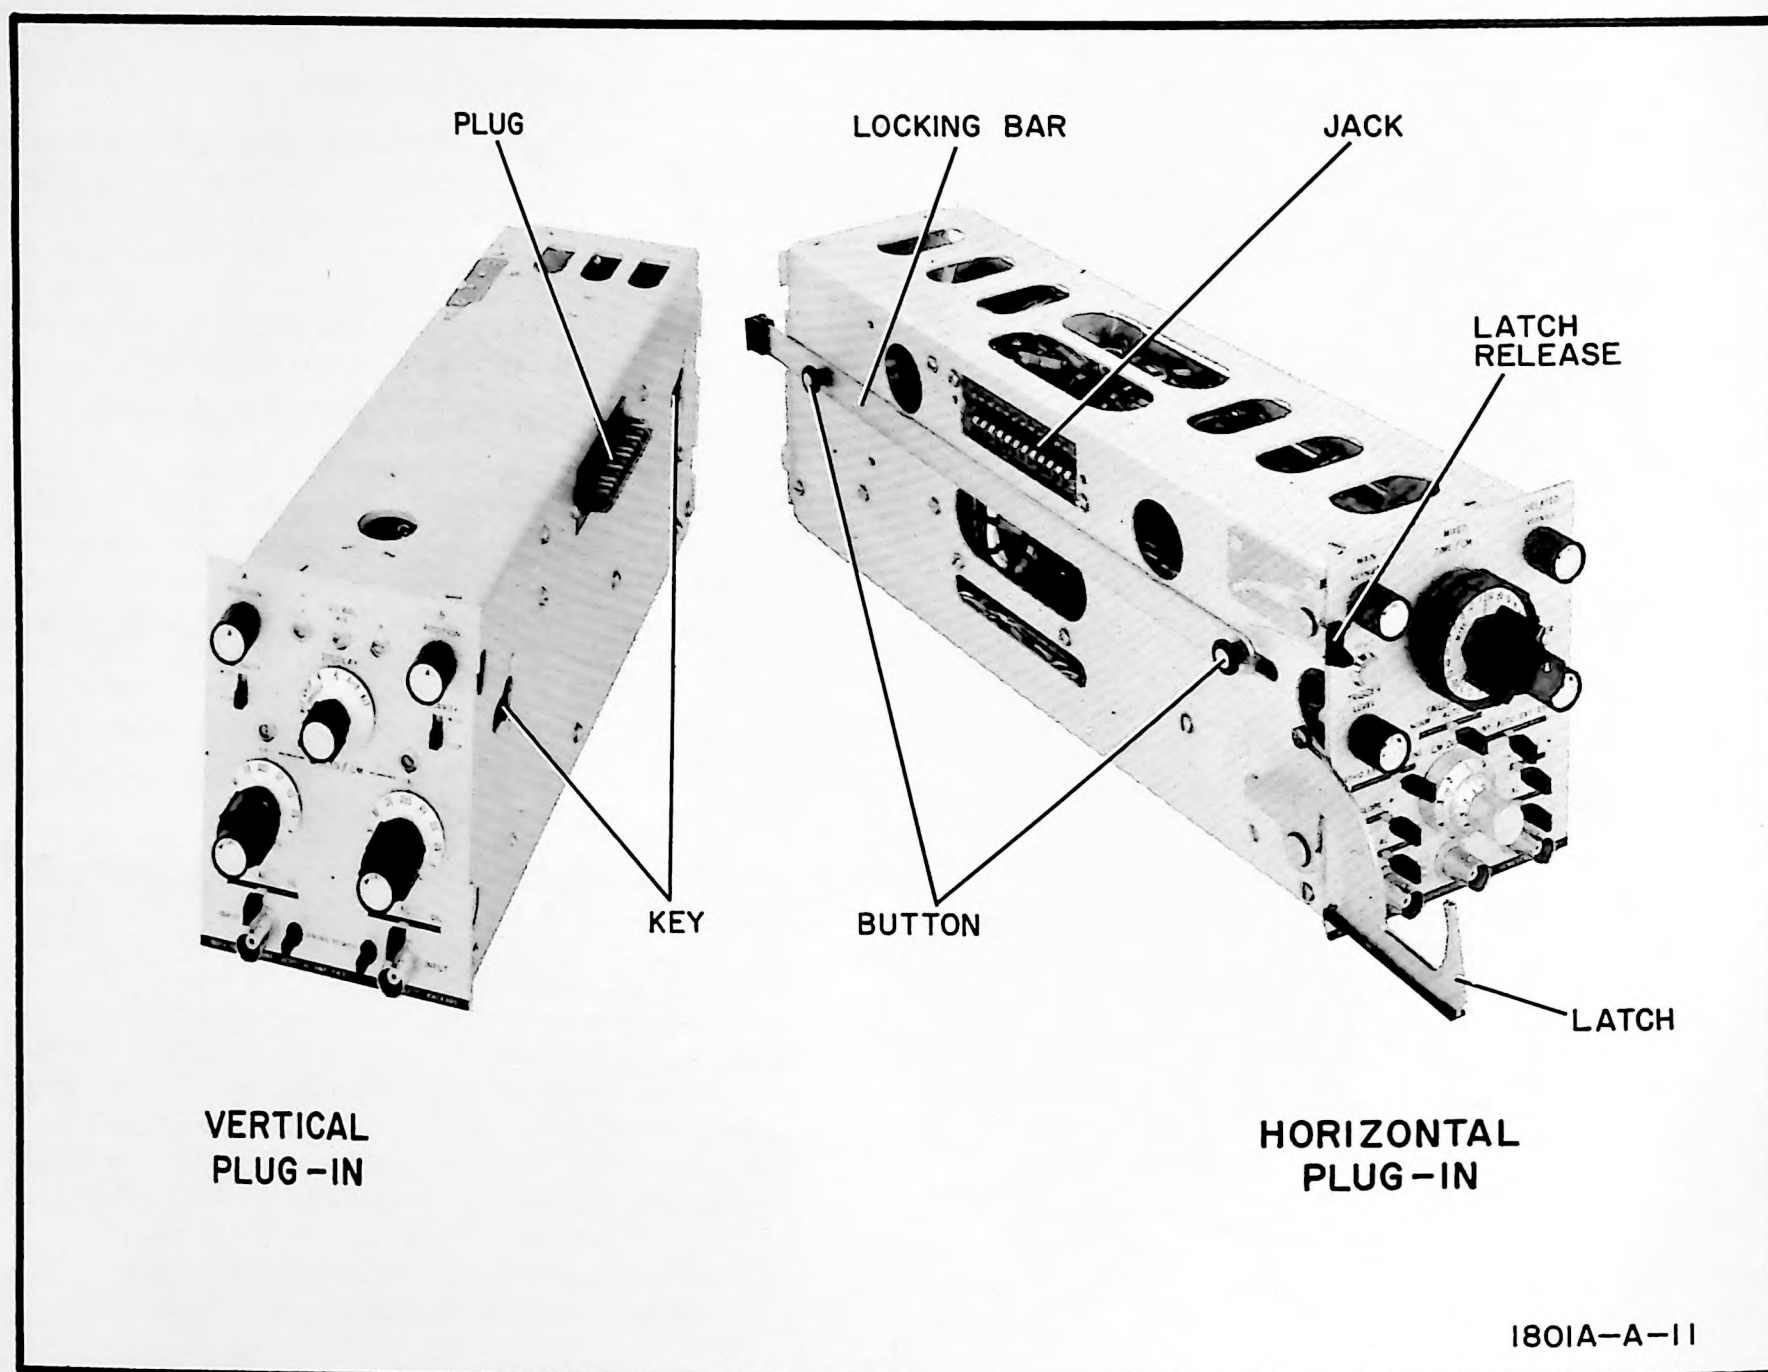

Figure 2-1. Plug-in Mating
- a. Move locking bar to rear (see Figure 2-1).